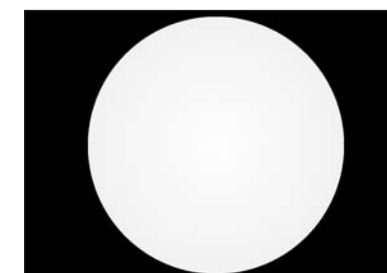

Figure 22
10. Rotate each of these in succession until the field of view is at its brightest overall and the brightest portion is centered in the field of view (figure 22). This step may be aided by placing a bright white piece of paper on the stage directly under the objective and the light field viewed on that.